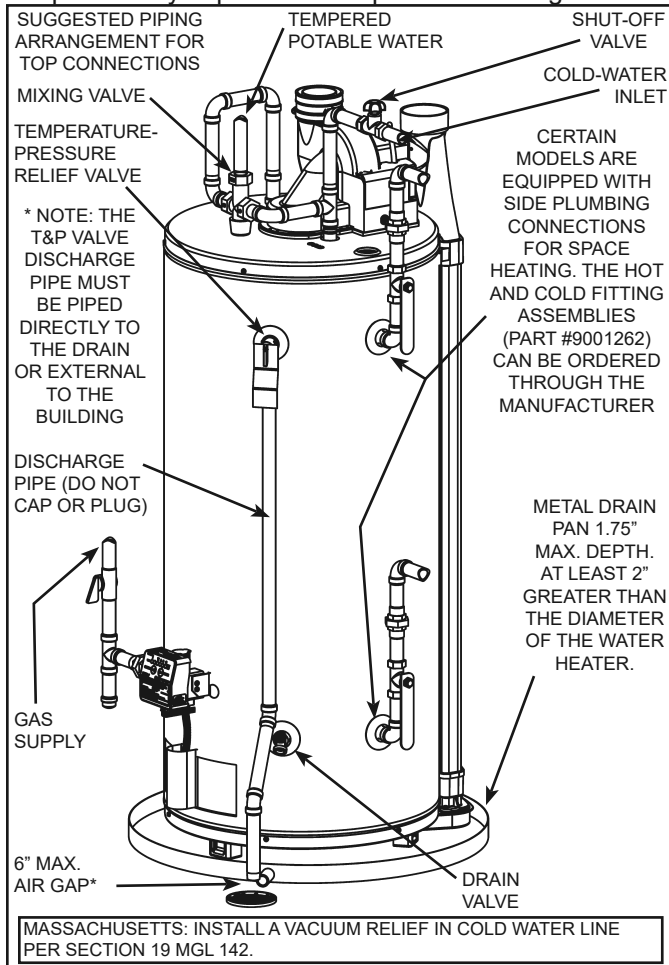

Figure 8.
Models equipped with Combo Heating capabilities are shipped with the two side plumbing taps **OPEN** (items 18 and 20 in Figure 1 and see also Figure 8). If the heater is to be operated without using the side taps, these openings **must be closed** with the two pipe plugs supplied with the heaters.